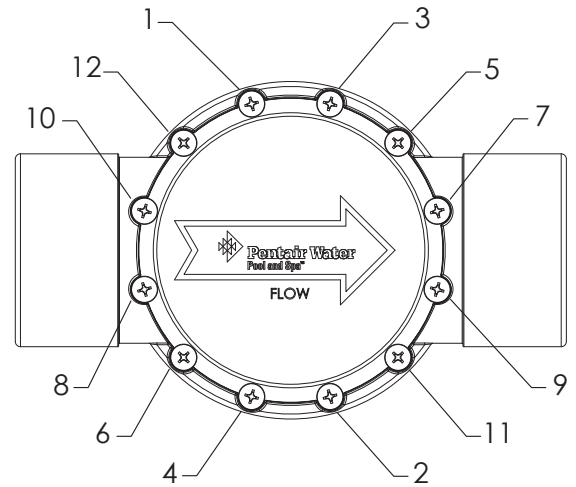

Figure 6.
## Check Valve Top Cover- Removal and Installation (see Figure 6 and 7)
To install the check valve top cover (see Figure 6 and 7)
3. Install the twelve (12) cover screws. Using a No. 2 Phillips screwdriver, torque screws sequentially to 36 lb\*in (4.1 N\*m), using the tightening sequence shown in Figure 6. Verify that the check valve flapper is oriented in the proper direction.